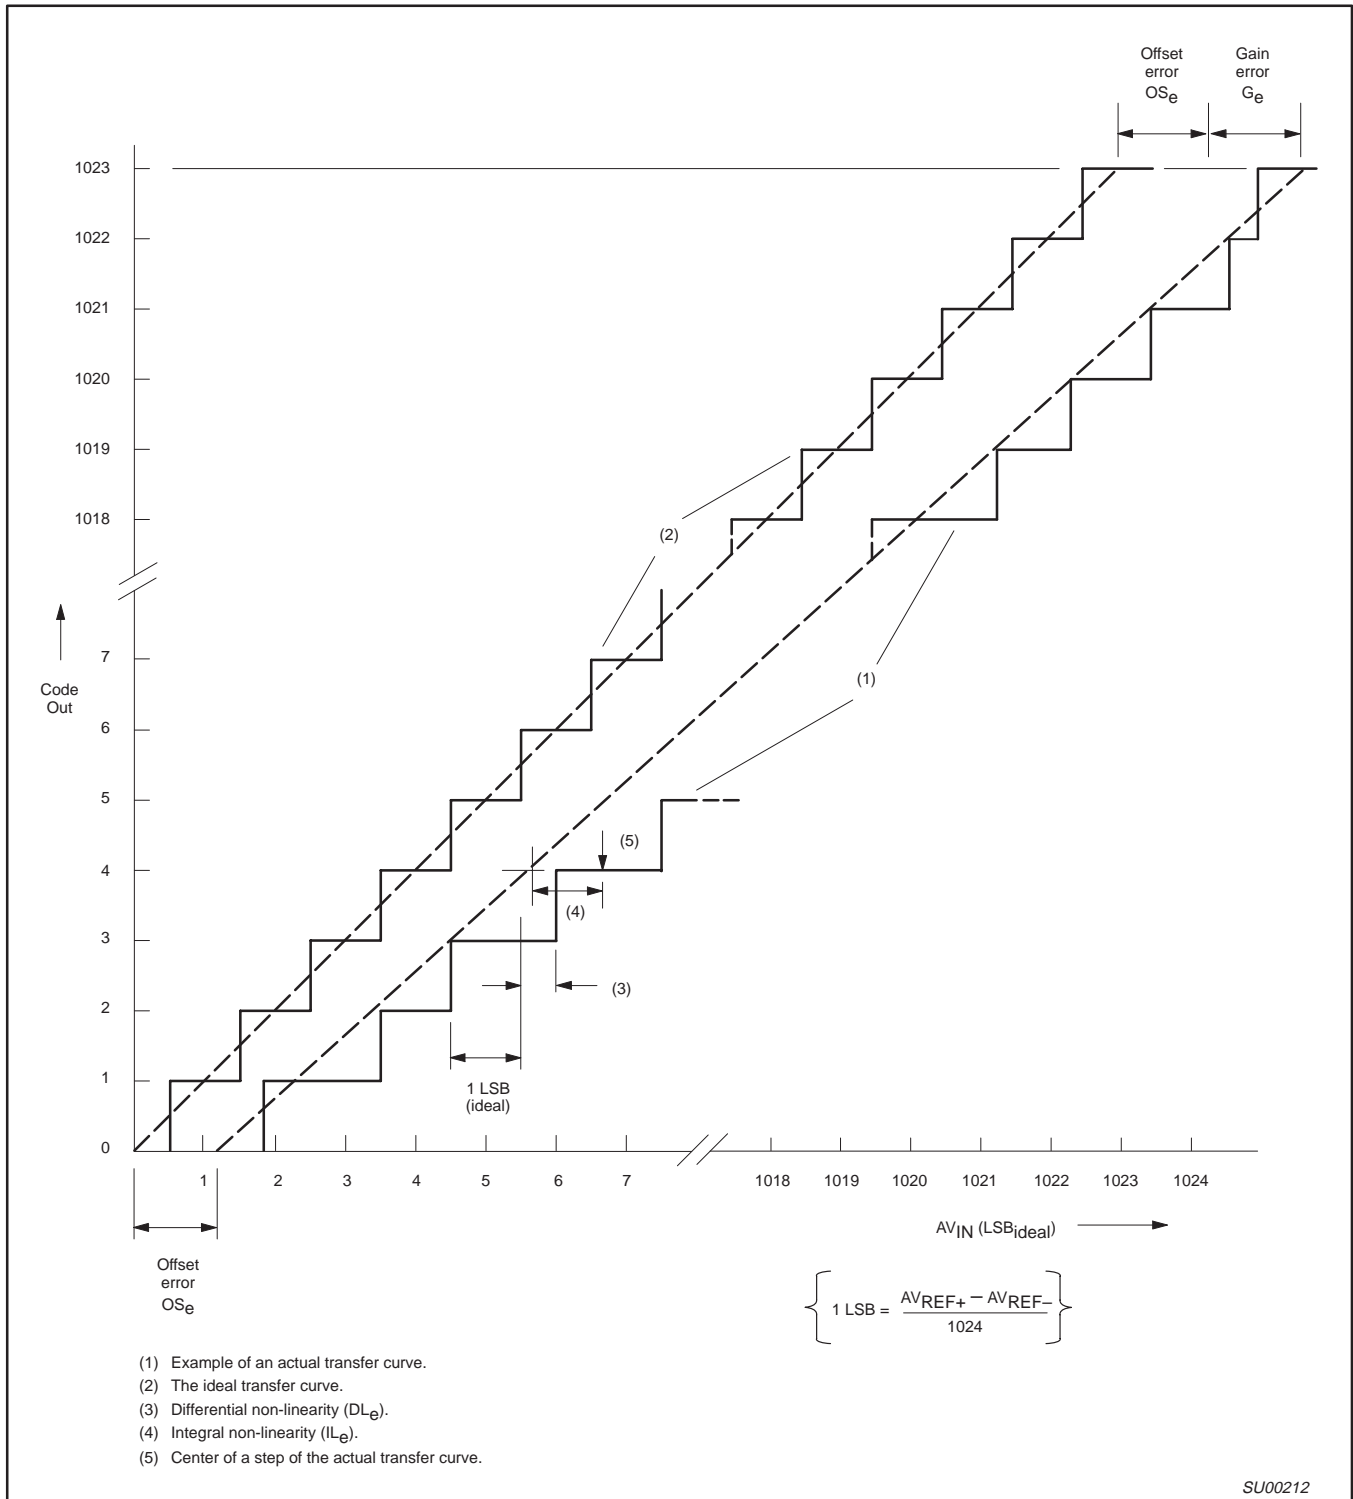

Figure 48. ADC Conversion Characteristic
- The differential non-linearity (DLe) is the difference between the actual step width and the ideal step width. (See Figure 48.)
- The integral non-linearity (ILe) is the peak difference between the center of the steps of the actual and the ideal transfer curve after appropriate adjustment of gain and offset error. (See Figure 48.)
- The offset error (OSe) is the absolute difference between the straight line which fits the actual transfer curve (after removing gain error), and a straight line which fits the ideal transfer curve. (See Figure 48.)
- The gain error (Ge) is the relative difference in percent between the straight line fitting the actual transfer curve (after removing offset error), and the straight line which fits the ideal transfer curve. Gain error is constant at every point on the transfer curve. (See Figure 48.)